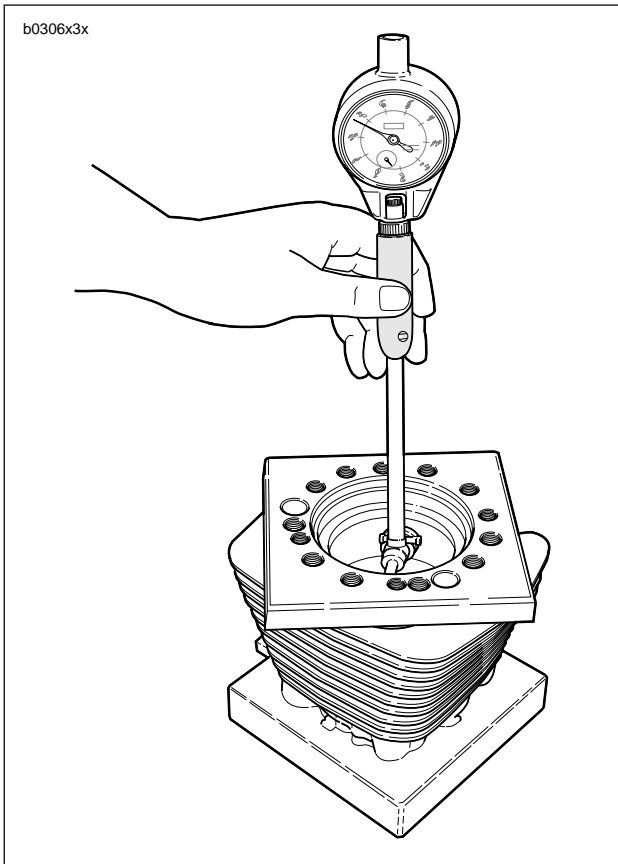

Figure 3-94. Measuring Cylinder Bore Using Torque Plates (Part No. HD-33446B)
2. See Figure 3-94. Install a head gasket, base gasket and O-rings, and CYLINDER TORQUEPLATES (Part No. HD-33446B) and XL EVOLUTION TORQUE PLATE BOLTS (Part No. HD-33446-86). Tighten the bolts using the same method used when installing the cylinder head screws. See 3.6 CYLINDER HEAD.
3. See Figure 3-94. Take cylinder bore measurement in ring path, starting about 0.50 in. (12.7 mm) from top of cylinder, measuring from front to rear and then side to side. Record readings.